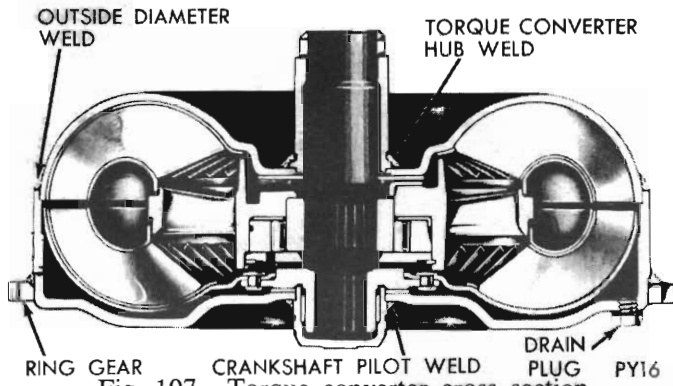

Fig. 107 - Torque converter cross section
**Converter Leakage (Fig. 107)**